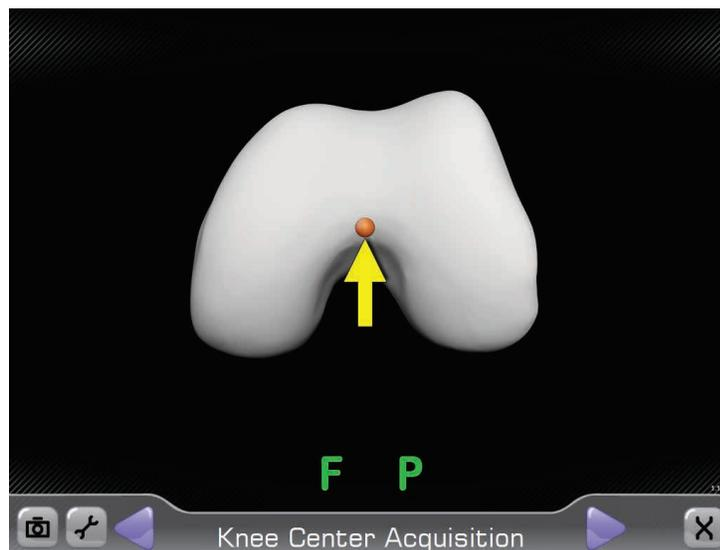

Figure 12
The *Knee Center Acquisition* screen is displayed (Figure 12). Position the tip of the Probe Tracker (P) to the deepest point of the intercondylar notch, and while the probe is contacting the bone, press the Forward button. The system will automatically advance to the next screen.